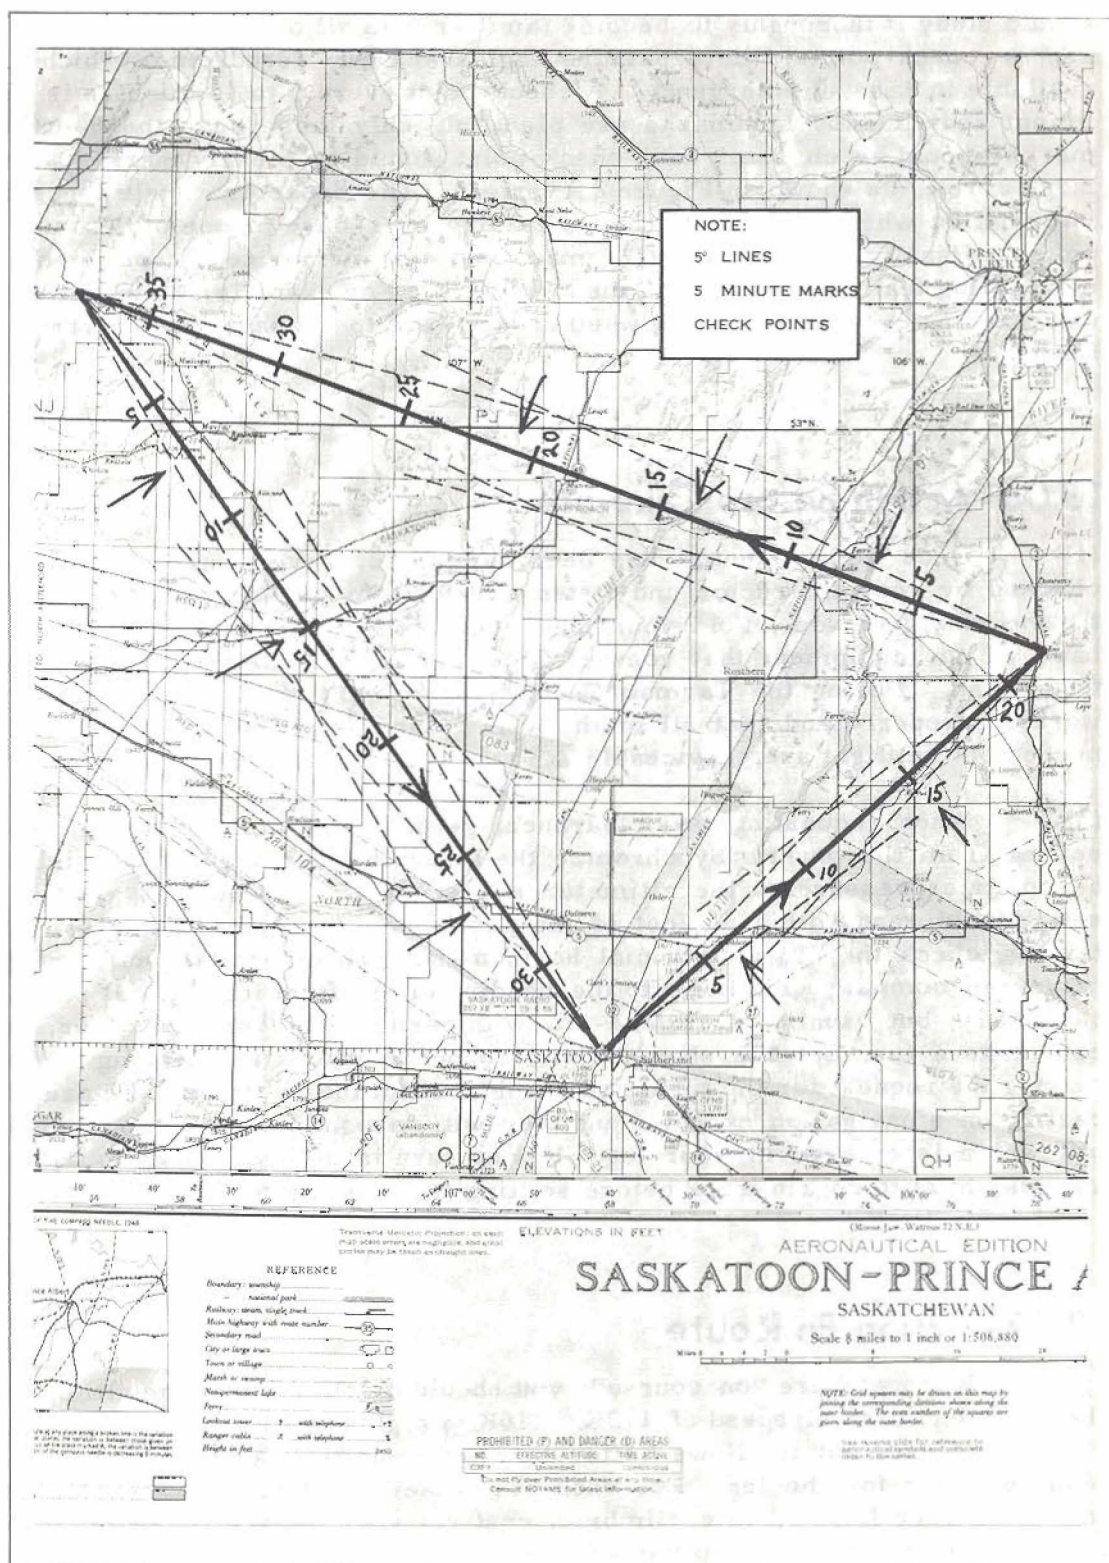

Figure 2: Preparing the Map
(1) While filling in the details on the log form, you will have to refer to the map for distances, tracks and other information. The track between each turning point is drawn on the map in black pencil and is measured on one of the meridians near the middle of each leg. Dotted drift lines are drawn 5 degrees on each side of the track, from both the starting point and the destination of each leg. These drift lines are at least 2/3 the length of each leg. (See Figure 2 opposite.)
(2) All along the track on each leg you must draw 5-minute lines at right angles to the track and, with the map orientated, you must mark in the elapsed time to each point.
(3) When the map has been marked according to these directions, you should study it thoroughly to become familiar with all of the features you can use as check-points, the departure angles and any aerodromes which are available in case of emergency. A check-point every 5 to 10 minutes is sufficient and, if good landmarks are plentiful, only those near the 5-minute marks should be chosen. Each check-point should be clearly marked with a large arrow, as shown in Figure 2 overleaf. The departure angle is useful information when you are setting a heading over base or one of the turning points. Usually, if you study the map, you can memorize the positions of outstanding features relative to the new track. For example, when setting a new heading, you should know whether you have to fly parallel to a river or bisect it.